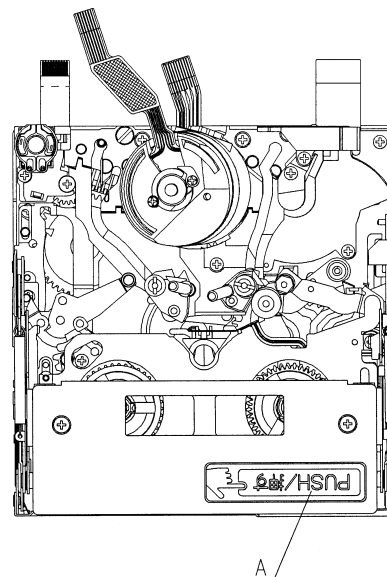

Fig. 2
- (6) When installing the cassette controller, push the portion indicated by "A" in Fig.2. Do not push other portions.
- (7) Take care not to deform the components of the mechanism.